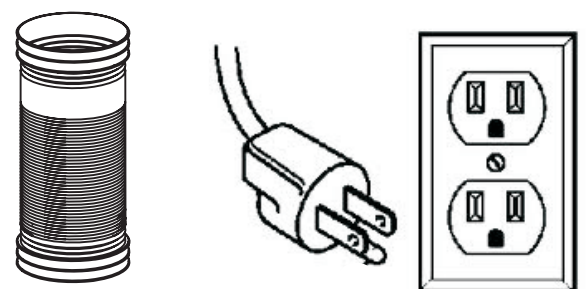

fig.4
Step 5: Make your electrical and ducting connections. Use 8" rigid duct wherever possible. Try and minimize the use of elbows. More elbows and longer runs create higher static pressure. The hood comes with a grounded three prong plug that can either be direct wired or plugged into a 20 amp. circuit. fig. 4